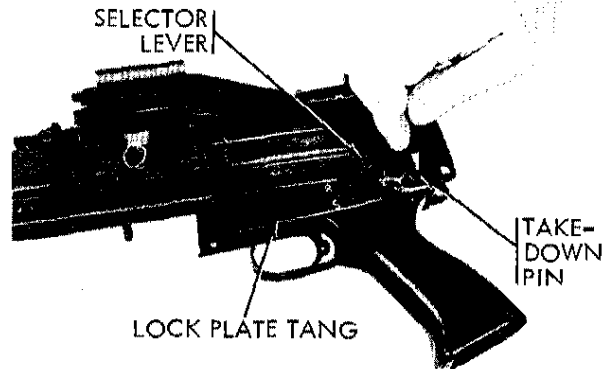

FIGURE 7. DISENGAGING THE TAKE-
- (1) Move the selector lever to the "S" (Safe) position, (fig. 7).
- (2) Pull the cocking handle on the right side of the receiver to the rear until the action is locked open.
- (3) Return the cocking handle to the forward, locked position.
(1) With the bolt closed and selector lever on "S" (Safe) disengage the take-down pin (fig. 7).